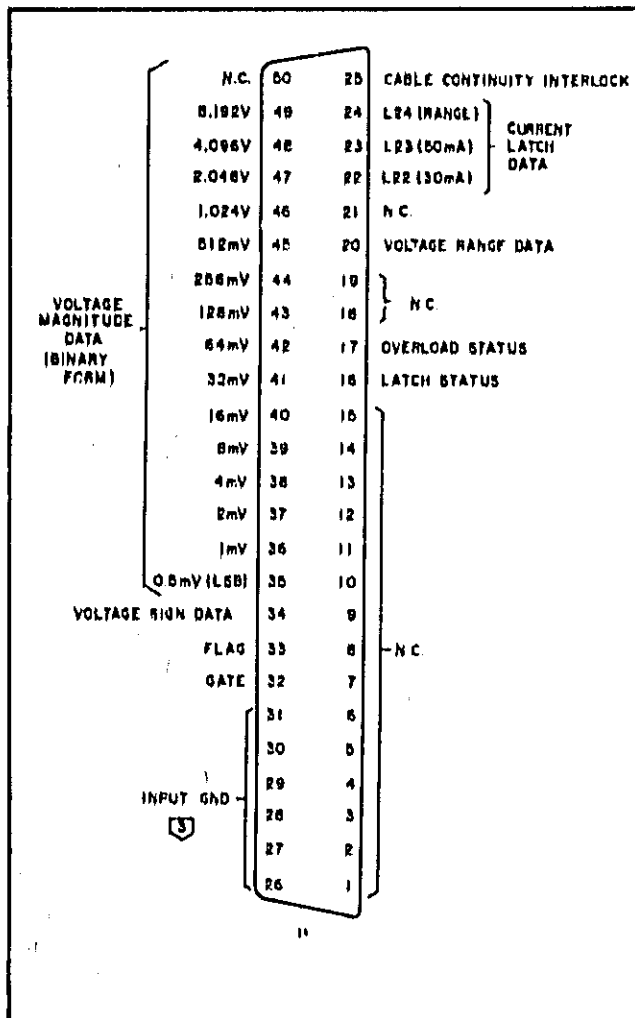

Figure B-1. Input/Output Data Connector
B-6 Input/Output data is connected to the digital programming source by means of the rear connector (Figure B-1). The parameters associated with each of the signals of Figure B-1 are discussed in the following paragraphs.
B-32 Input data common must be connected to (3) common of the DVS (pins 26 through 31 shown on Figure B-1). These pins are internally shorted together within the connector jack.